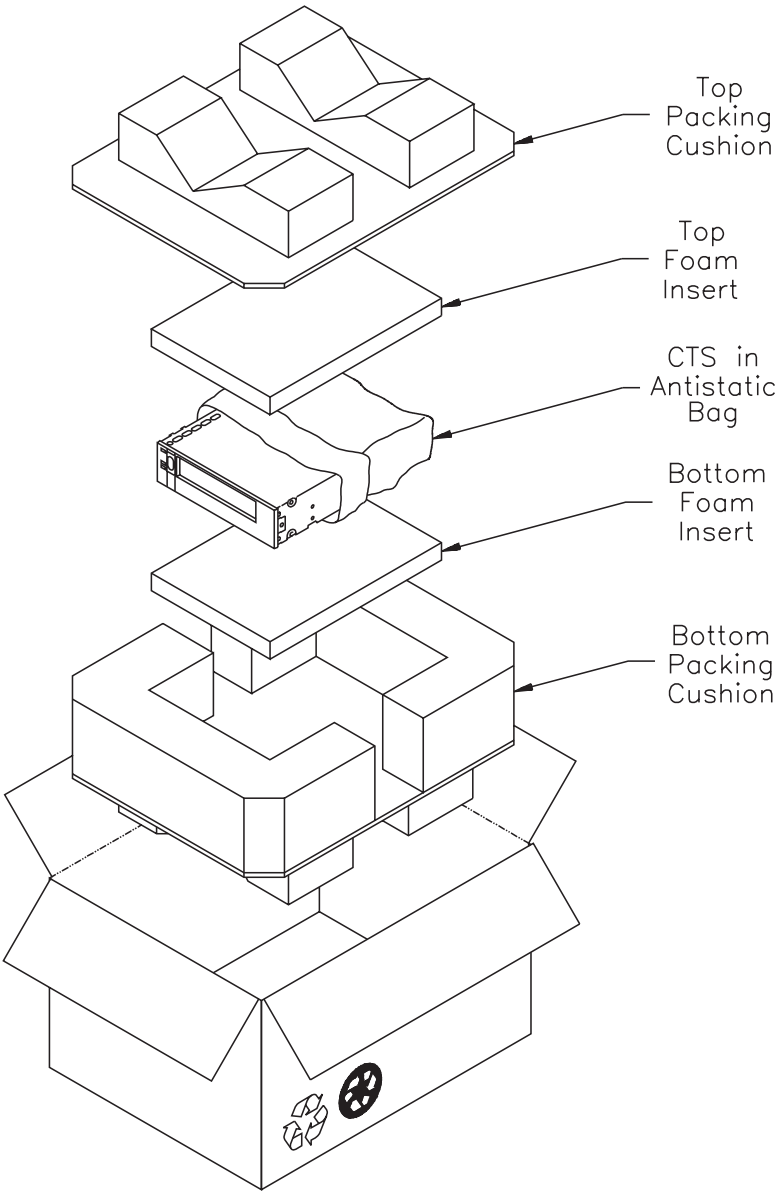
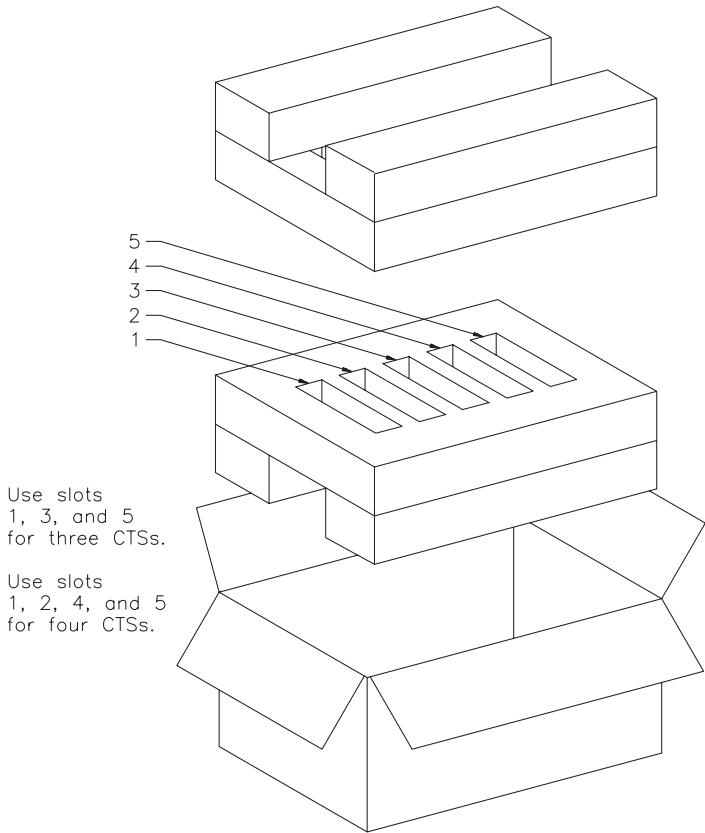

Figure 12 Single-pack carton and packing materials
Figure 13 Multi-pack carton and packing materials
You can ship the tape drive with either one drive per carton (single-pack) or with three to five drives per carton (multi-pack). Figure 12 on page 34 shows the single-pack carton and packing materials; Figure 13 on page 35 shows the multi-pack carton and packing materials.
5. **If you are shipping a single drive**, pack the drive in the single-pack shipping carton as shown in Figure 12.
If you are shipping three or more drives, refer to Figure 13 and place three, four, or five drives in the bottom packing cushion of the multi-pack carton as follows: